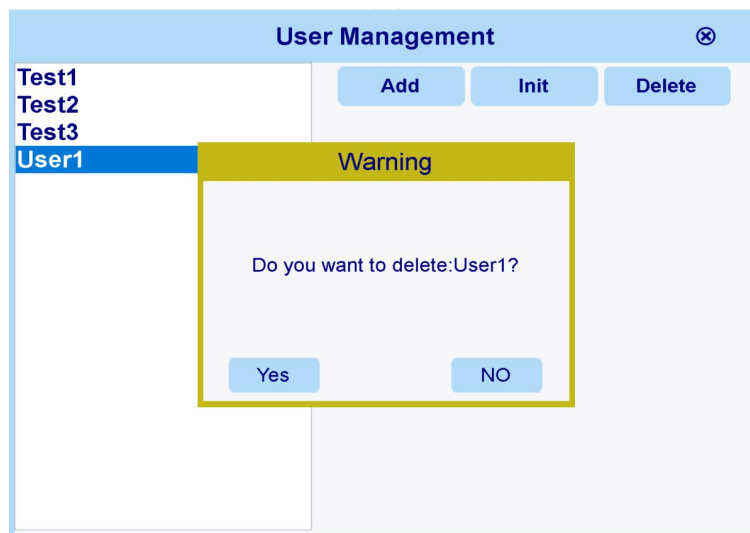

Figure 5-11 Delete user interface
- **Delete a user:** Click the "Delete" button, and the system will confirm to the user whether to delete the user (Figure 5-11) .